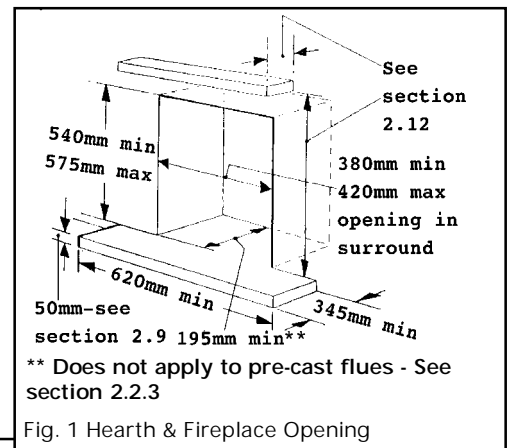

Fig. 1 Hearth & Fireplace Opening
**2.2.1** To a fireplace complete with surround and hearth as shown in figure 1 and complying with BS1251. The required fireplace, hearth, debris catchment area and clearance dimensions are shown in figure 1.
**2.2.4** To a builder's opening within the dimensions shown in figure 1.